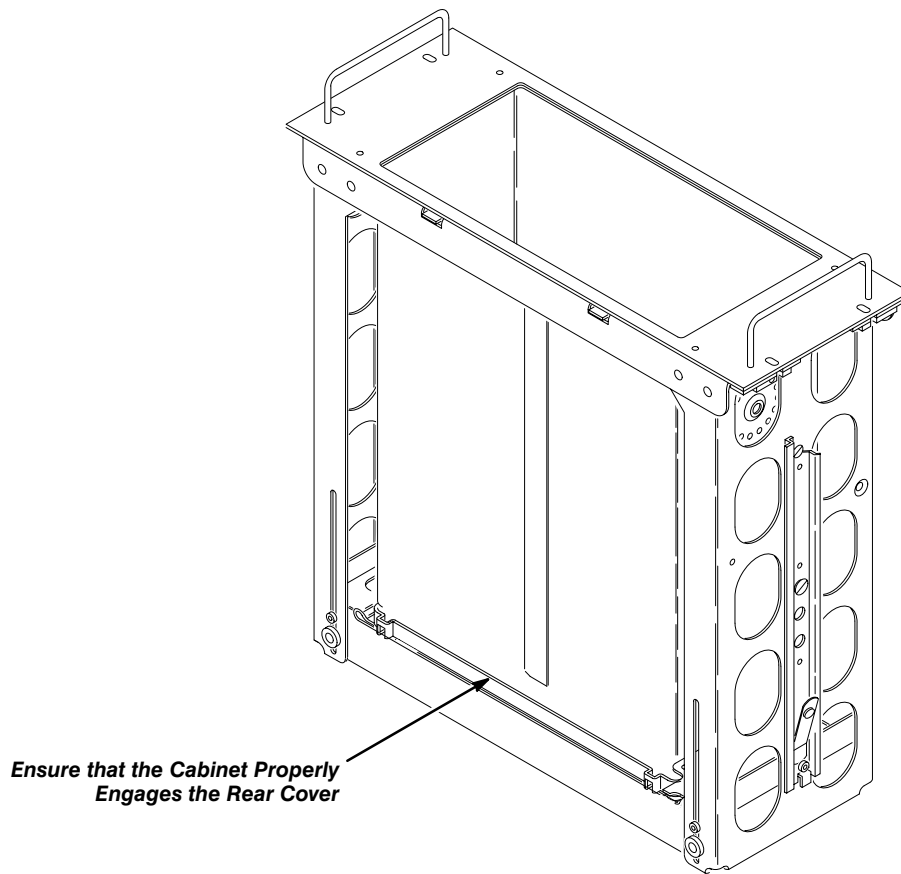

Figure 10: Instrument Cabinet and Rear Cover Installed
- g. Slide the instrument cabinet down so that it properly engages with the rear cover. See Figure 10.